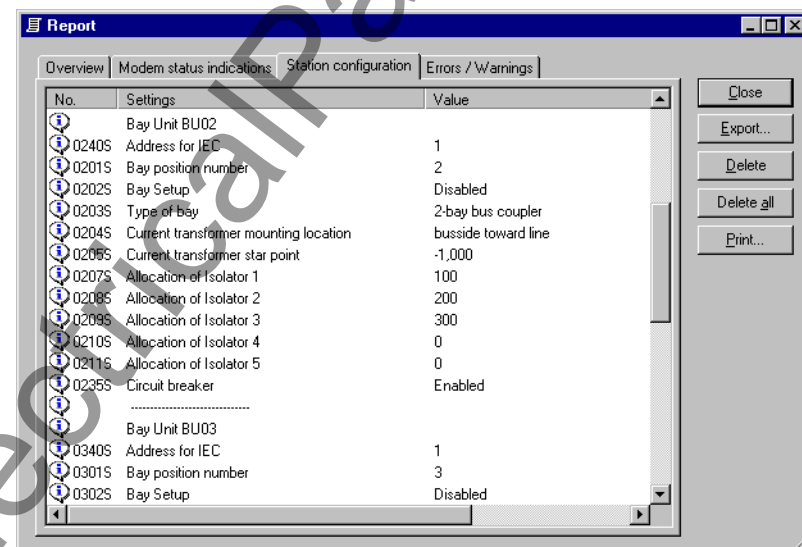

Figure 4-30 Evaluation protocol (report) when exiting the configuration – Example
- ❑ Subsequently click **OK**. The evaluation protocol (report) (Figure 4-30, page 79) opens when you exit the Plant Configuration.
- When configuring the up to 12 bus zones (including up to 4 transfer bus zones) and 12 bus coupler zones, the individual bus zones (BB01 to BB12) or bus coupler zones (TB01 to TB12) are numbered from left to right and from the top to the bottom starting from the first main busbar to the transfer busbar or fourth main busbar. The parameters are assigned automatically by the Plant Configuration and can be verified in the report (see Figure 4-30, page 79)..